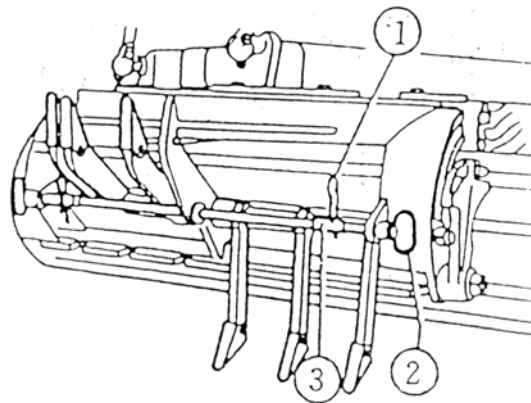
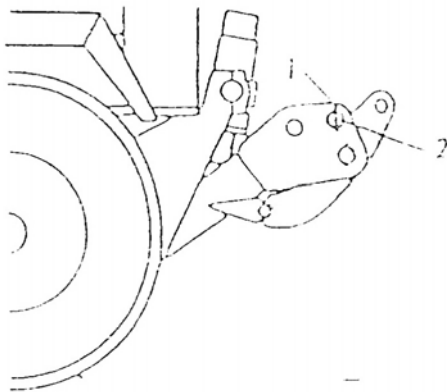

Fig.22
Fig.24
1. Remove safety spring (Fig. 22/1) and pull out the rod (Fig. 22/2)
2. After having putted down the scearifer teeth push in an safety rod (Fig. 22/2) if several teeth are operated. Always fit separate sleeves (Fig. 24/3) between two sides of the outer teeth
1. Remove spring pin (Fig 24/1)
2. By removing the shaft (Fig 24/2) it is possible to set each tooth into the desired position Then, the shaft is pushed in and spring pin is mounted.
1. Transport position (Fig. 24)